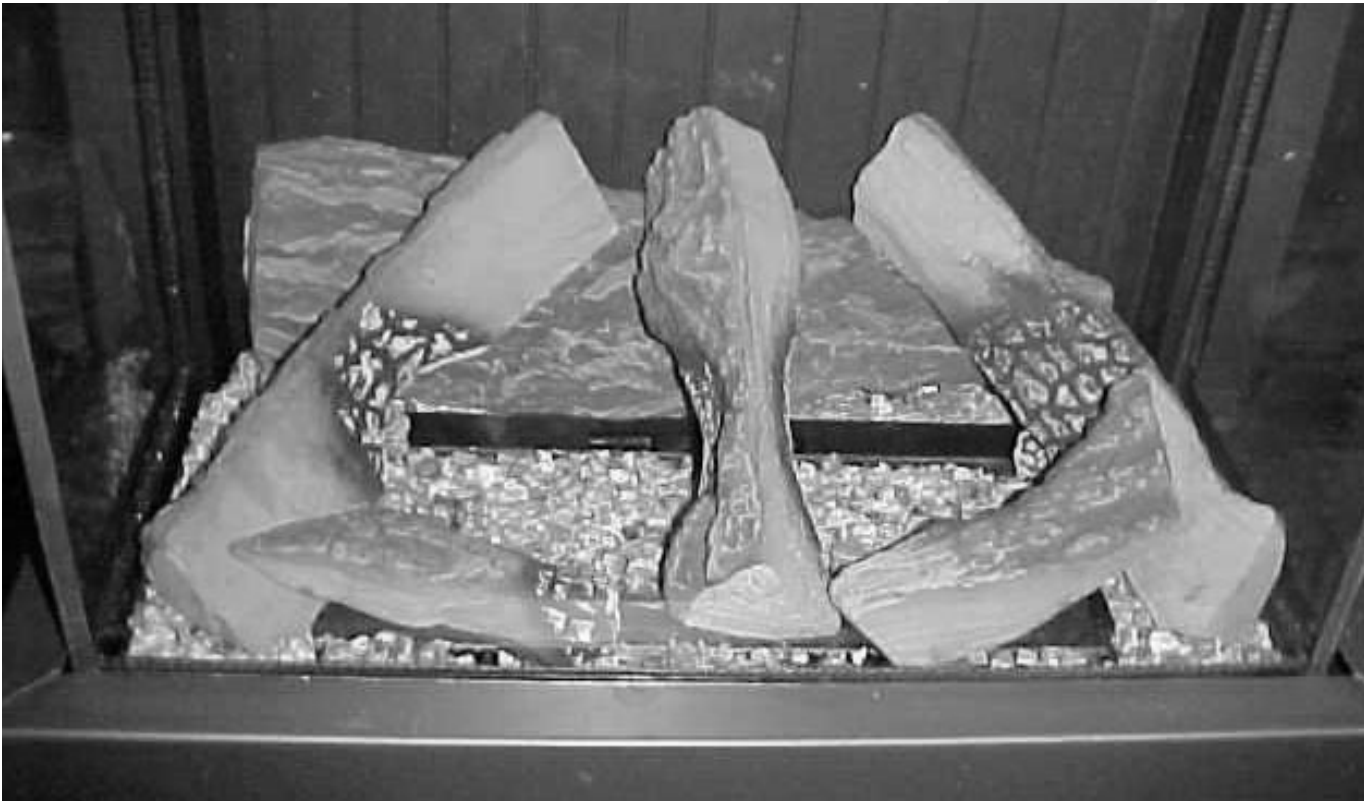

fig. 5
- Now position the rest of the logs as illustrated in fig. 5.